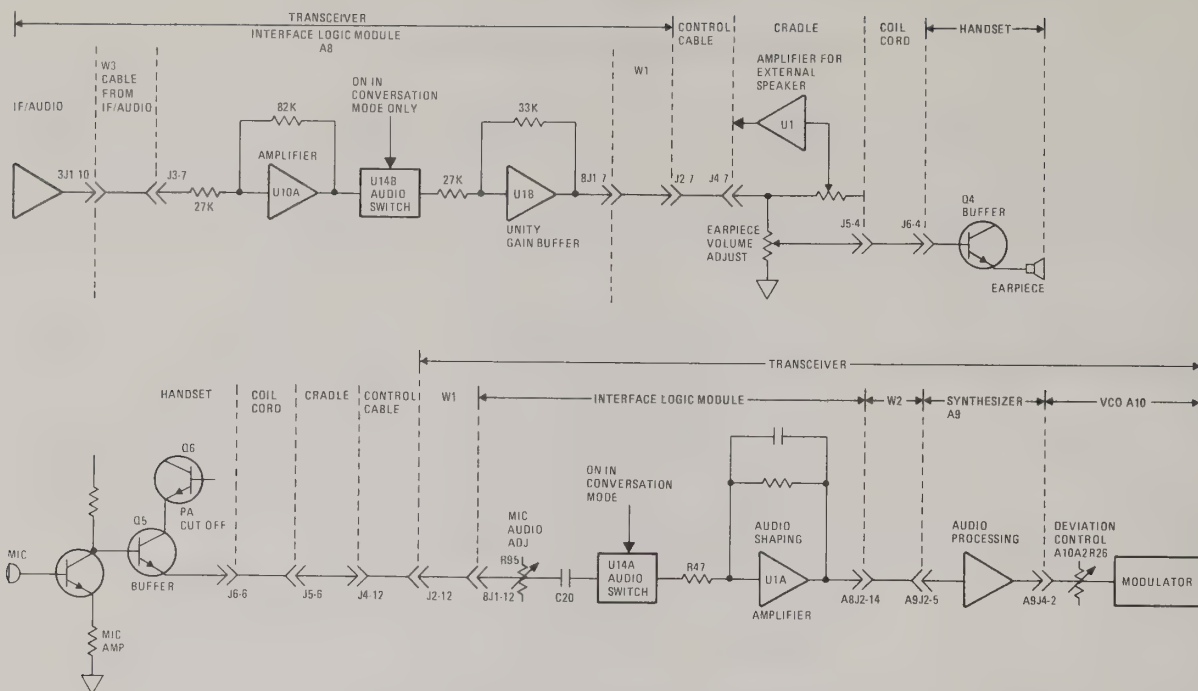

Figure 4-1. Simplified Transmit and Receive Audio Path Diagrams
4.07 Figure 4-1 shows the simplified transmit and receive audio path circuits.